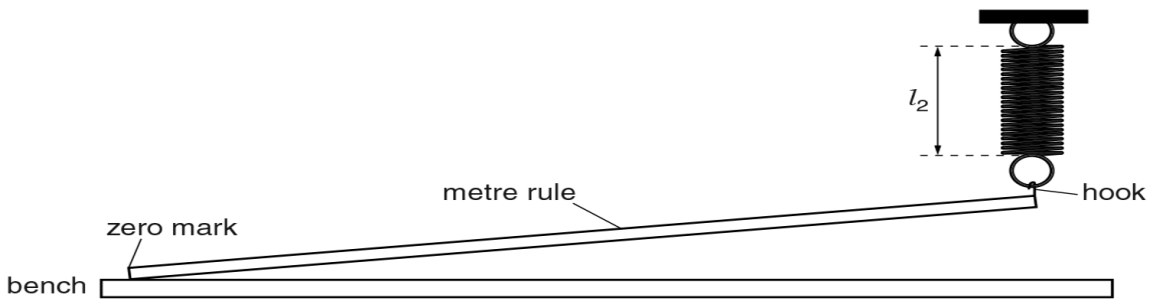

Fig. 1.3
- (b) The apparatus is then set up as shown in Fig. 1.3. The rule is at a small angle to the bench.